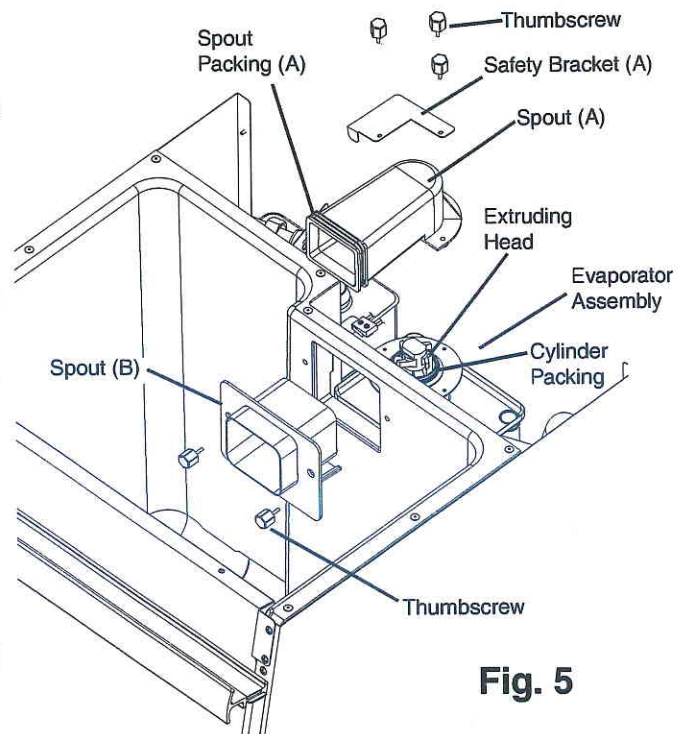

Fig. 5
8) Remove the thumbscrews attaching spout (B) to the bin, then remove spout (B). See Fig. 5.
9) Remove the thumbscrews attaching spout (A) and safety bracket (A) to the evaporator assembly, then remove spout (A) and safety bracket (A). See Fig. 5.
- 3) Remove the thumbscrews attaching spout (B) to the bin, then remove spout (B).
- 4) Remove the thumbscrews attaching spout (A) and safety bracket (A) to the evaporator assembly, then remove spout (A) and safety bracket (A). Remove spout packing (A) and the cylinder packing. See Fig. 5.